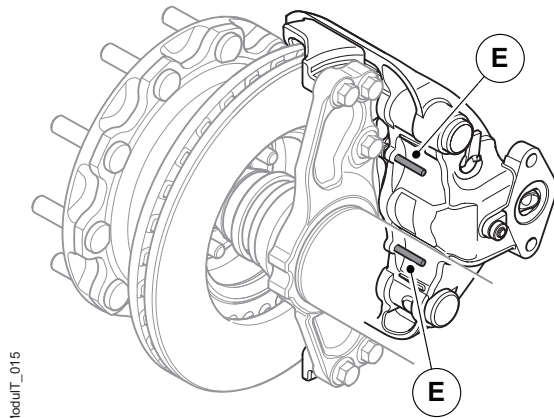

Figure 21. The two thrust plate guide pins
3. Check that the two thrust plate guide pins (E), see figure 21, are in their correct position.